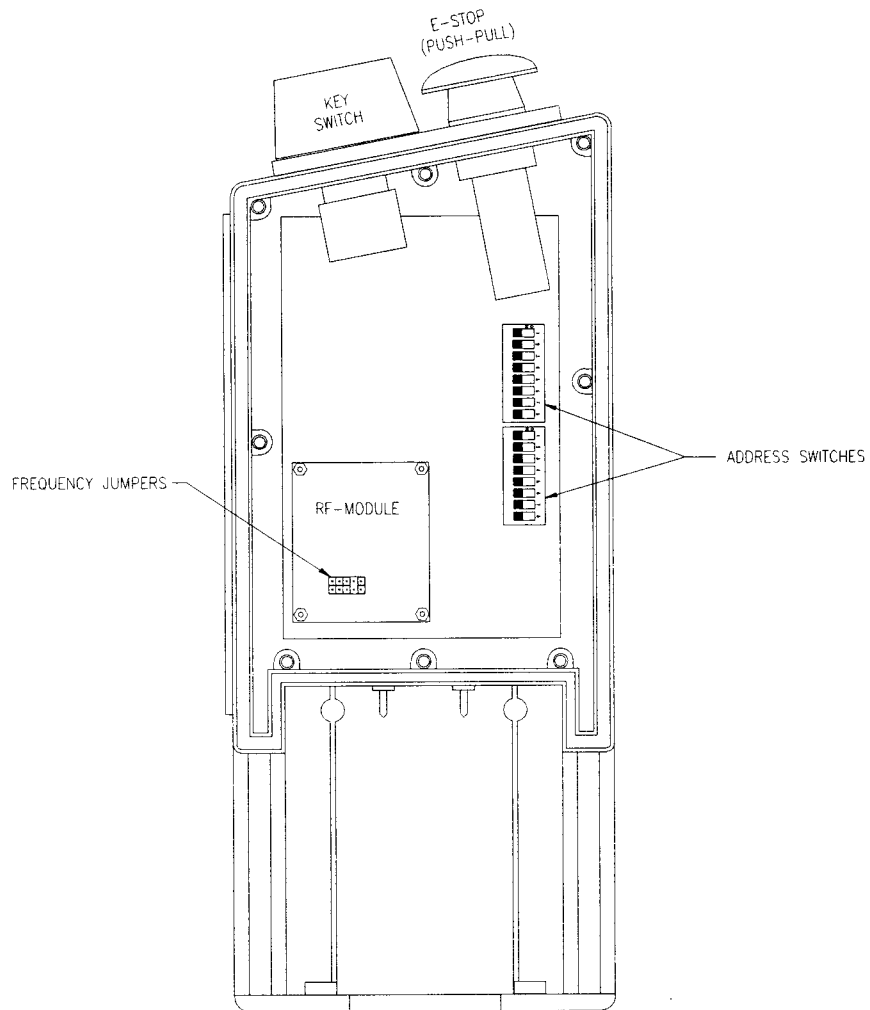

Figure 3.4: Inside the JRT Transmitter
5. Use Figure 3.4: Inside the JRT Transmitter to locate the two blocks of address DIP switches and the frequency jumpers inside the JRT transmitter enclosure.